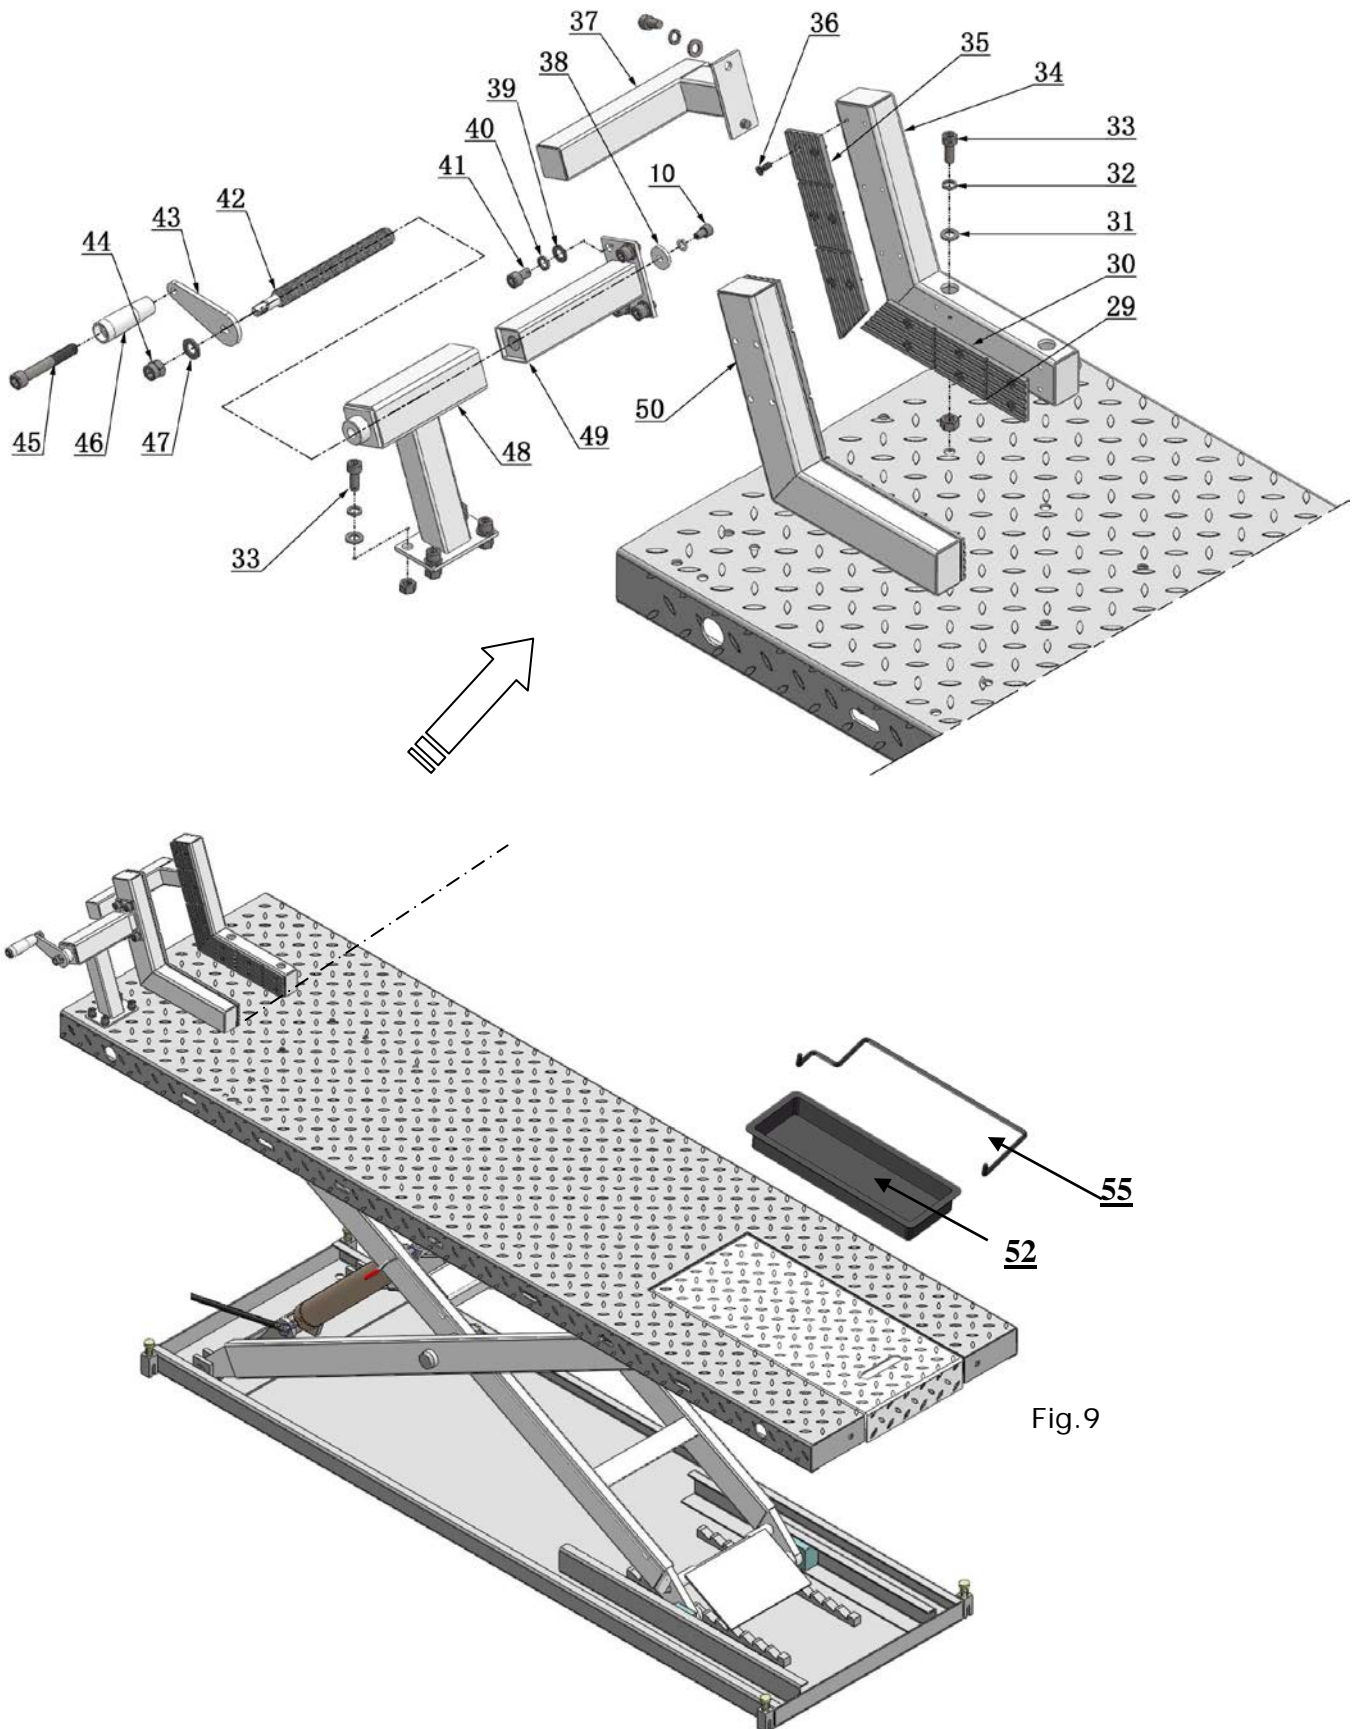

Fig.9
E. Install adjustable fixing device. See Fig 9